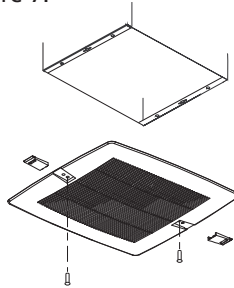

Figure 7 — Attaching Grille
3. Slide attachment screw covers over the attachment screws, shown in Figure 7.
Repair Parts List for Insulated Ventilators (See Figure 7)